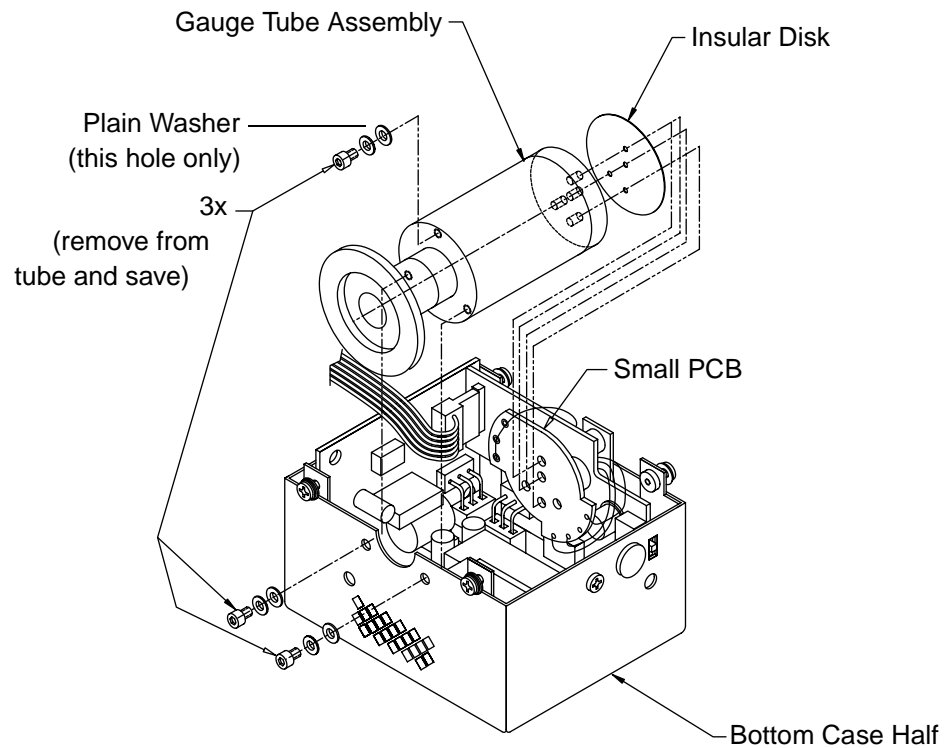

Figure 3 Removal of Socket Head Cap Screws and Lockwashers
3. Remove 3x socket head cap screws and lockwashers as shown in Figure 3, and save for re-use.